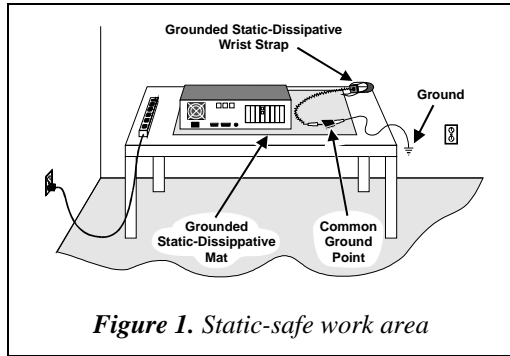

Figure 1. Static-safe work area
- Work at a static-safe work area (see *Figure 1*).